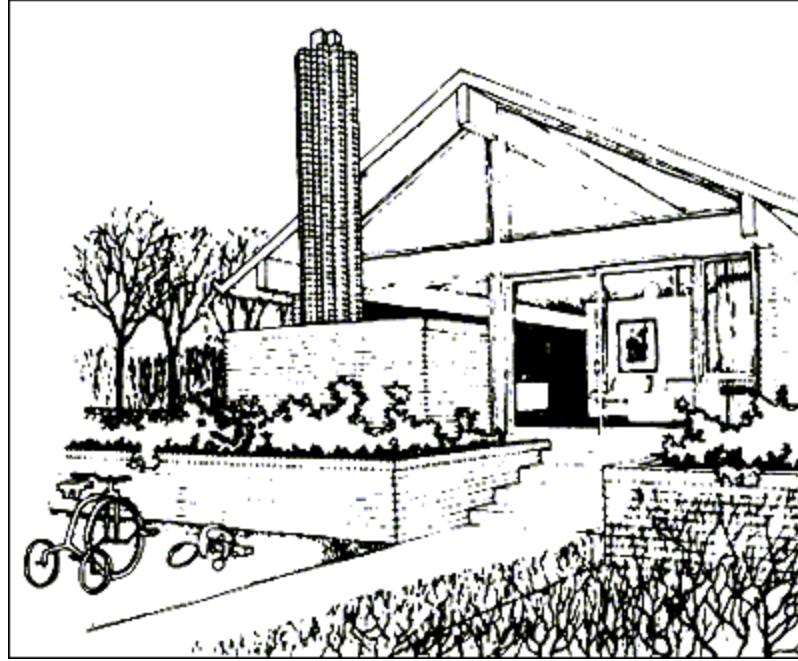

FIG. 4
**Planting boxes.** Planters may be constructed indoors and outdoors, in a wide variety of designs. They protect decorative plants from animals and facilitate waist-high gardening as shown in Fig. 4.